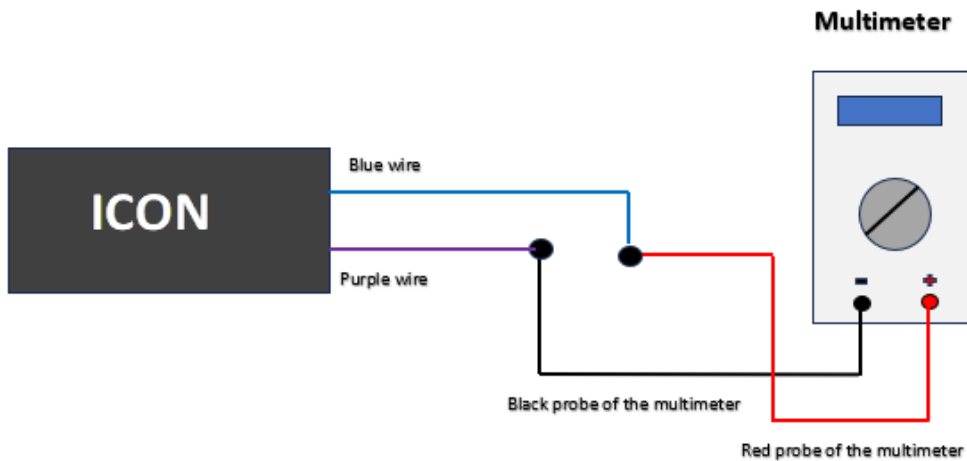

Fig. 4 Connection Diagram
2. Assemble the connection circuit according to "Fig. 4 Connection Diagram".